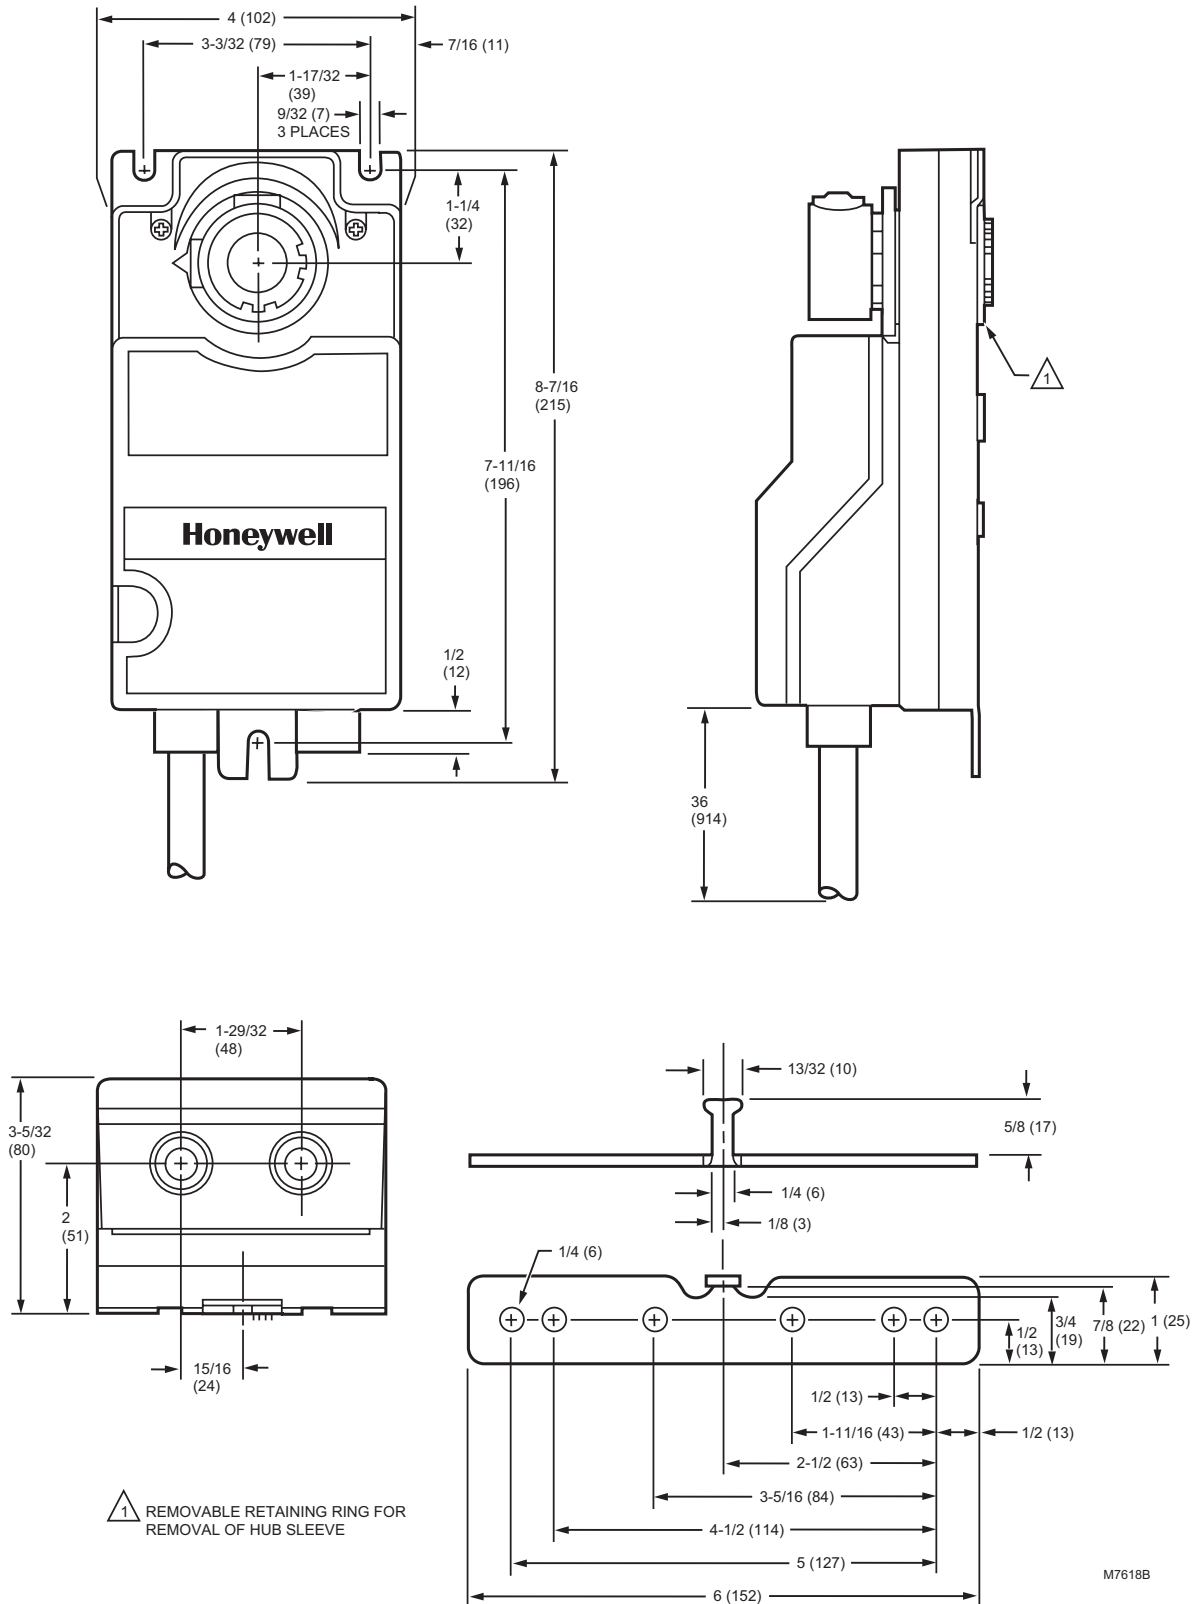

Fig. 1. Approximate dimensions of ML6284 Non-Spring Return Direct Coupled Damper Actuator and mounting bracket in in. (mm).
**Dimensions:** See Fig. 1.
A mounting bracket (see Fig. 1) is provided with some models to aid in installing the actuator. The bracket can be bent to any shape to allow the bracket tab to be centered in the actuator slot.